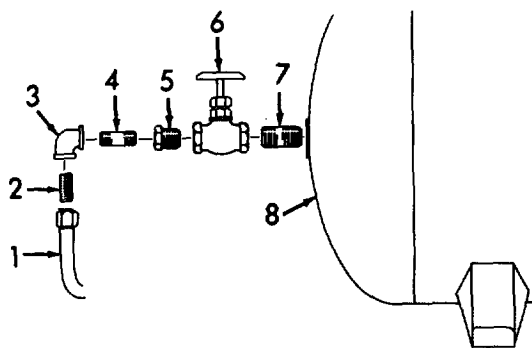

Figure 3-41. *Globe Valve, Removal.*
a. *Removal.* (Refer to Figure 3-41).